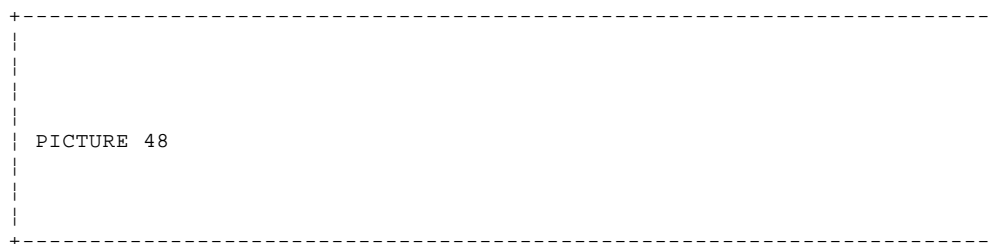

Figure 5-24. The Hot-Swap Hard Disk Drives and the Hot-Swap Bays
6. Move the latch down on the new hot-swap hard disk drive, then slide it into the hot-swap bay(Figure 5-24).